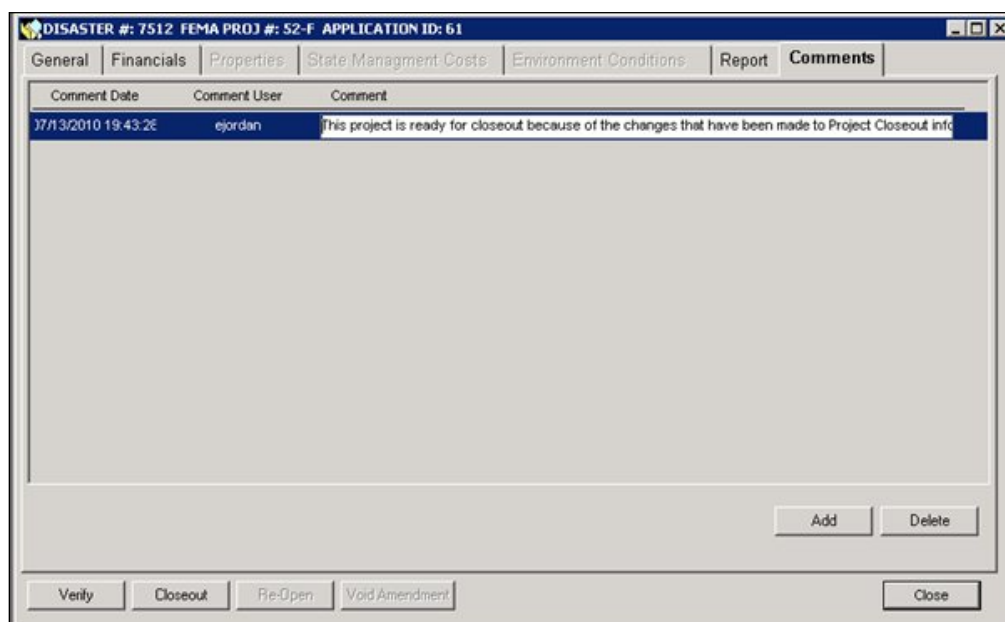

Figure 12-14: New Comments Added
10. Click the OK button. The comments are now displayed on the **Comments** tab (Figure 12-14).